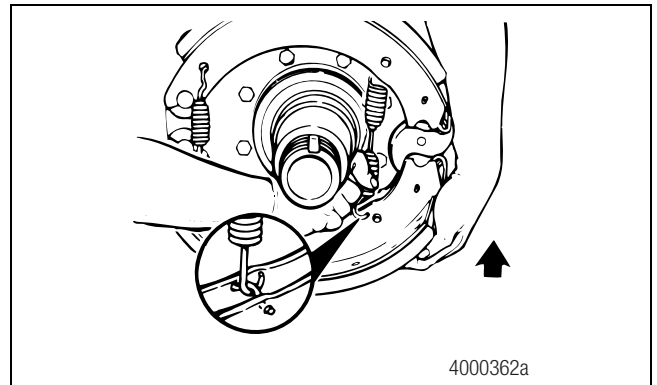

Figure 5.20
3. Rotate the lower brake shoe forward. Install a new brake shoe return spring with the open end of the spring hooks toward the camshaft. Figure 5.20.